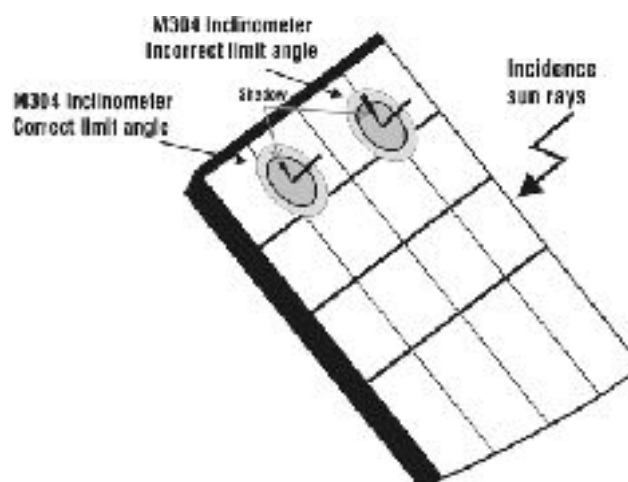

Fig. 8: Positioning the M304 inclinometer
- 17. Mount the M304 (inclinometer) supplied accessory, place and hold it on the plane of module. **Verify that the sun shadow falls on the disc within the “limit internal circle” on the disc itself (see Fig. 8). If this is not the case, the incidence angle between sun rays and the module surface is too high and not complying with the test conditions declared by the module manufacturer. As a consequence the measurements performed by the meter are not ok and all measurements steps shall be repeated at another daytime**